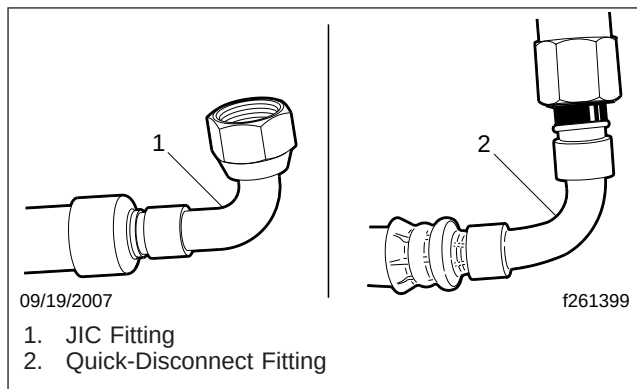

Fig. 1, Transmission Cooler Line Fittings
5. Disconnect the transmission cooler lines from the transmission. On some transmissions, these lines are attached with quick-disconnect fittings (see Fig. 1) that must be removed using a special tool and a specific technique to prevent damage. See Section 20.00, Subject 100 for the procedure.